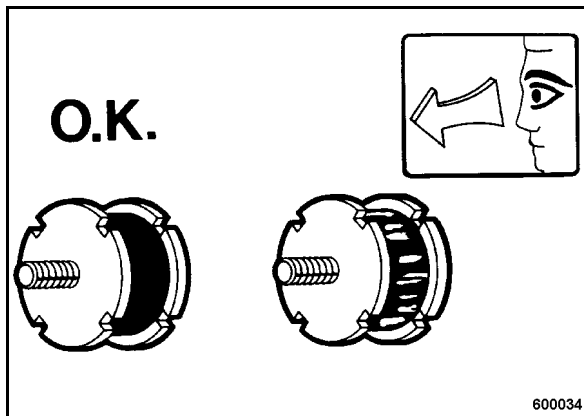

Fig. 67
- Check all rubber buffers (Fig. 67) for tight fit, cracks and damage and replace immediately if damaged.